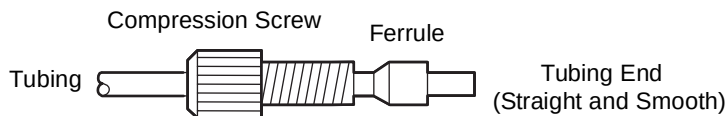

Figure 2-11 Reverse Ferrule and Compression Screw Assembly
9. Slide a compression screw over the end of the tubing, followed by a ferrule with its tapered end facing away from the tubing end, and its wide end flush with the tubing end, as shown in Figure 2-11.